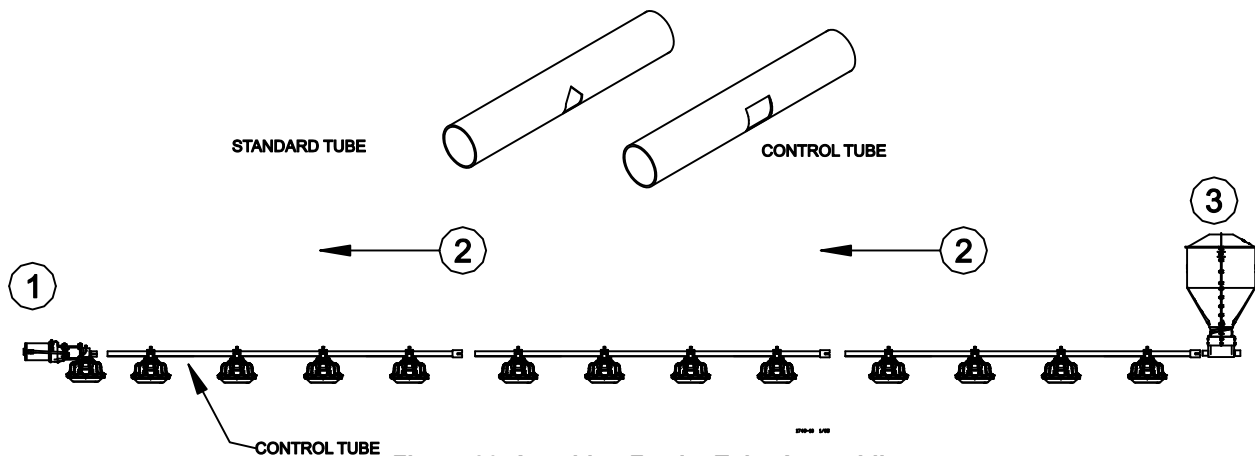

Figure 26. Attaching Feeder Tube Assemblies
- The actuator, auger tubes and feeders may be laid out end to end in approximately the final location of the line. **The belled end of each tube should be toward the (3) Hopper end of the line. See Figure 26.** Be sure to have the correct number of tubes and the actuator is in the center of the section to be controlled by an actuator.
- Connect the individual feeder tubes together by inserting the straight end of one tube as far as possible into the (2) belled end of the next tube. **The last Feeder Tube before the (1) End Control Pan or Mid Line Control pan must be a Control Tube.**